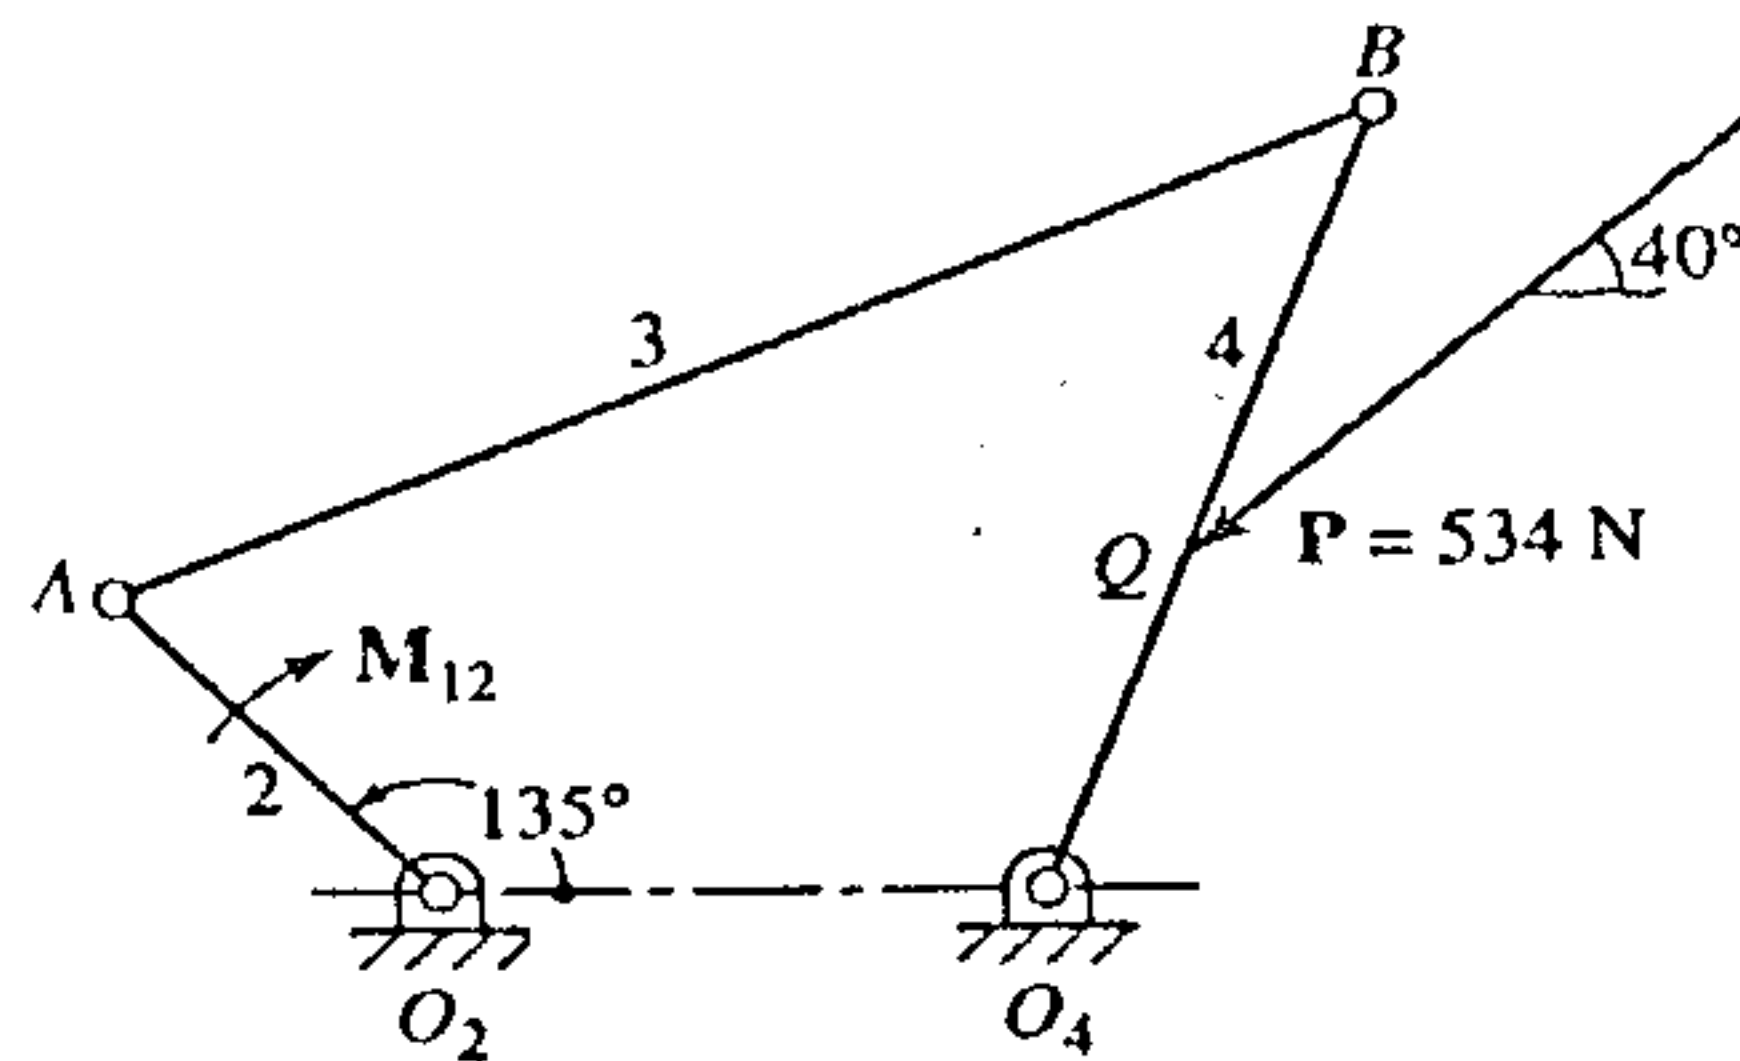

Figure 3
b) The four– bar linkage of Figure 3 has crank 2 driven by an input torque M_{12} an external load $P = 534 \text{ N}$ acts at point Q on link 4 as shown in Figure 3. For the particular position of the linkage shown, find all the constraint forces and their reactions necessary for this to be a position of equilibrium. 10 M